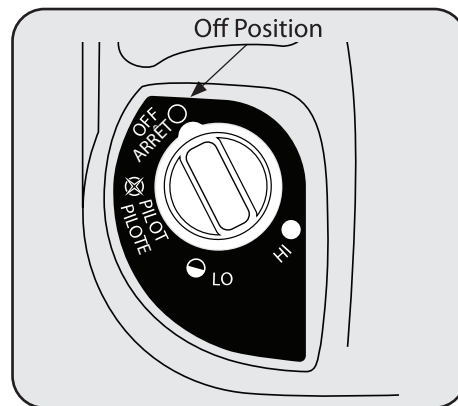

Figure 1
1. Make sure four-position Control Knob is in "OFF" position. See Figure 1.